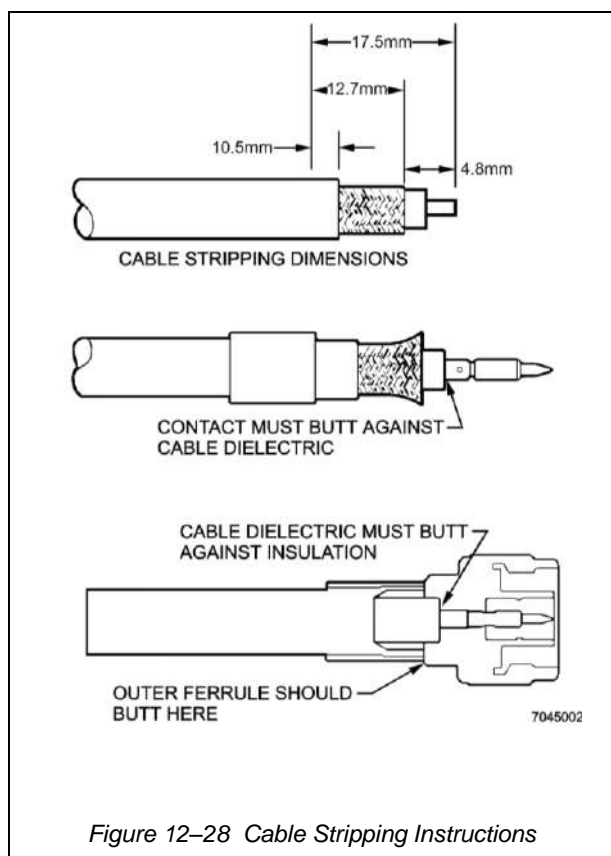

Figure 12-28 Cable Stripping Instructions
- Strip cable jacket, braid, and dielectric to dimensions shown (see Figure 12-28). All cuts are to be sharp and square. Important: Do not nick braid, dielectric, and centre conductor. Tinning of centre conductor is not necessary if contact is to be crimped. For solder method, tin centre conductor avoiding excessive heat.